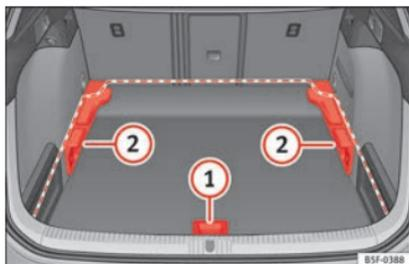
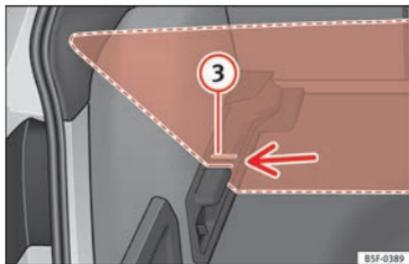

Fig. 136 Luggage compartment variable floor: positions.
Fig. 137 Luggage compartment variable floor: grooves tilted.
- Lift the floor using handle » Fig. 136 ① and pull it back until the front of the floor has fully passed the supports ②.
- Move the floor forward over the supports as far as the rear seat backrest and then lower the floor with the handle ①.
- Now match the front part with the lower grooves of the supports and slide the floor forwards as far as the rear seat backrest and lower the floor at the same time with the handle ①.
- Lift the variable floor using handle » Fig. 136 ① and pull it back until the front of the floor has fully passed the tilted grooves » Fig. 137 ③.
- Run the floor through these grooves with the help of handle ① as the rear seat backrest and until the floor is resting in the grooves.